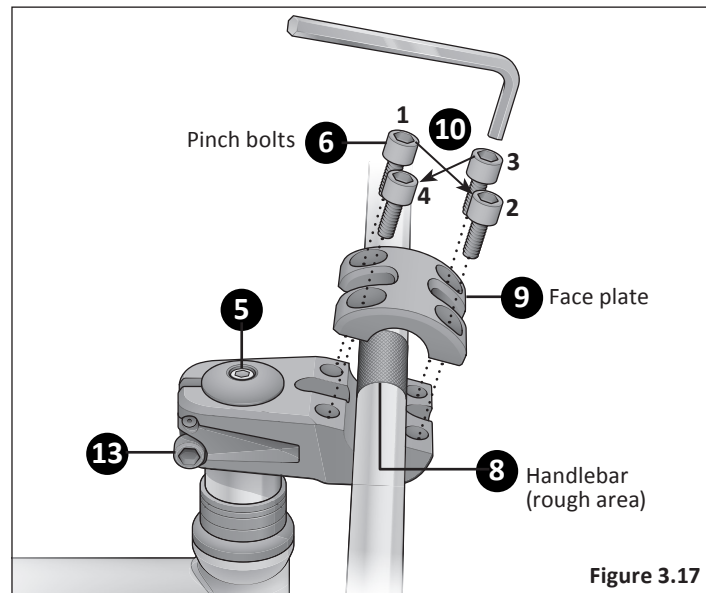

Figure 3.17
- 5 Place the top cap onto the top of the steerer tube. Insert and tighten the top cap bolt until it is snug. **Do not tighten completely at this time. Figure 3.17**
- 13 Finish tightening the pinch bolts and stem cap bolt. **Figure 3.17**